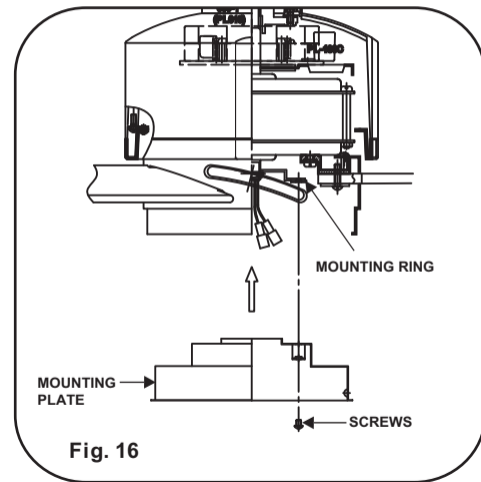

Fig. 16
Step 2. Place the key holes from the mounting plate over the 2 screws previously loosened from the mounting ring, turn mounting plate until it locks in place at the narrow section of the key holes. Secure by tightening the 2 screws previously loosened and the one previously removed. (Fig. 16)